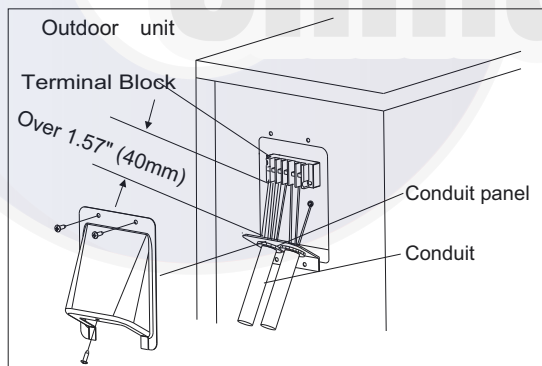

Fig. 11 – Field Wiring
5. Connect conduit to conduit panel (see Fig.11 ).